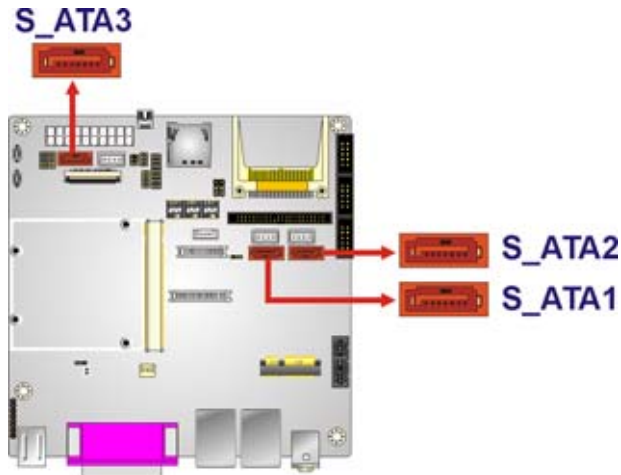

Figure 4-17: SATA Drive Connector Locations
- CN Location:** See Figure 4-17